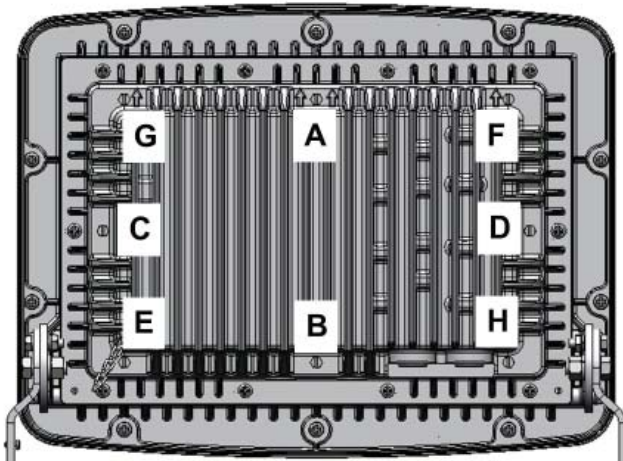

Figure 4 – Back Cover Installation
2. Ensure gasket joint, back cover and driver housing surfaces are clean and free of damage and debris. Put back cover in place on driver housing and start all eight (8) back cover screws hand tight. Initially, torque back cover screws to 40 in.-lbs. (4.5 N-m) in sequence of A-B-C-D-E-F-G-H as shown in Figure 4. Next, torque back cover screws up to 79 in.-lbs. again in sequence of A-B-C-D-E-F-G-H. Finally, torque screws through A-B-C-D-E-F-G-H sequence one final time and ensure torque values are at 79 in.-lbs. (8.9 N-m).